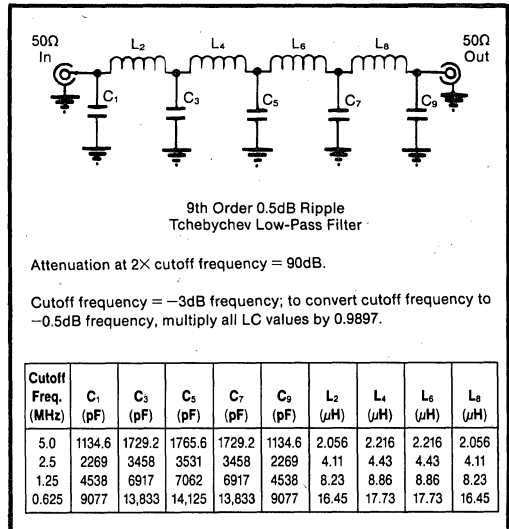

FIGURE 6. Ninth-Order Harmonic Filter.
3. Low-pass filtering (or bandpass filtering) of test signal generators is absolutely necessary for THD and IMD tests. An easily built LC low-pass filter (Figure 6) will eliminate harmonics from the test signal generator.